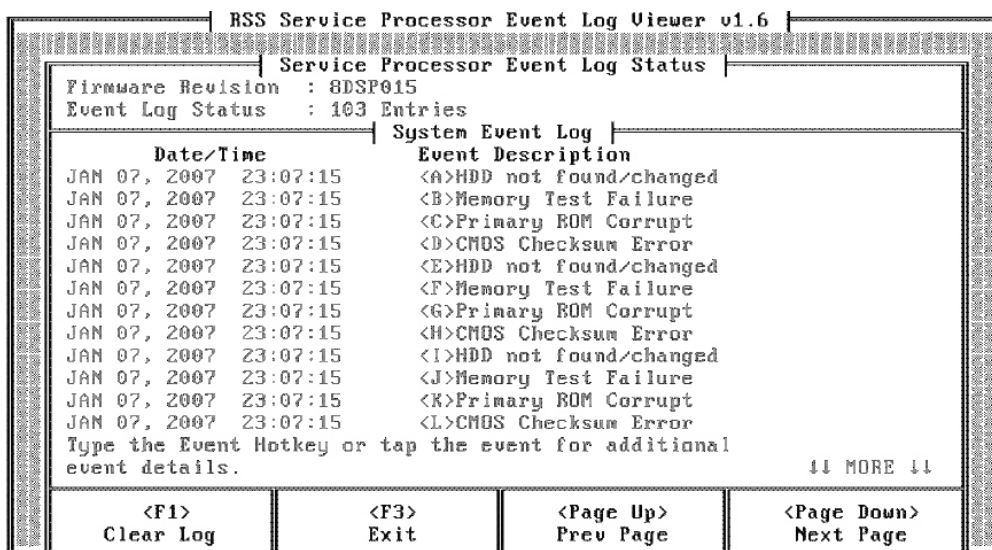

Figure 41. Example of saved events screen
2. Tap the center box or press CTRL+D to open the system event log viewer. A screen similar to Figure 41 on page 66 appears.